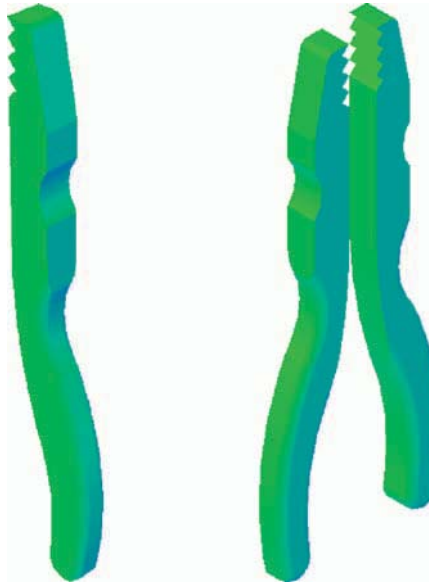

Fig. 14.17 First example – 3D Mirror – before and after mirror
3. Extrude the region to a height of **5** and render. A **Conceptual** style shading is shown in Fig. 14.17 (left-hand drawing).
The result is shown in the right-hand illustration of Fig. 14.17.